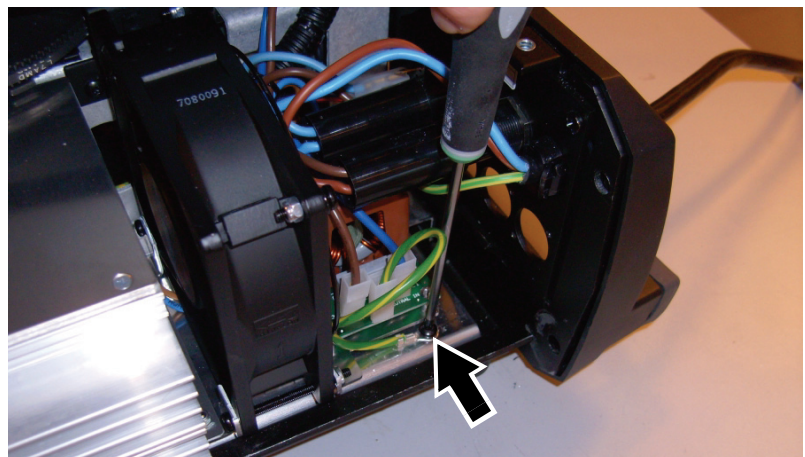

**Figure 35**
37. See Figure 35. Connect the brown **Live** power input lead on the mains filter to the spade connector **A** above the existing brown lead on the power on/off switch. Connect the blue **Neutral** power input lead on the mains filter to the spade connector **B** above the existing blue lead on the power on/off switch.